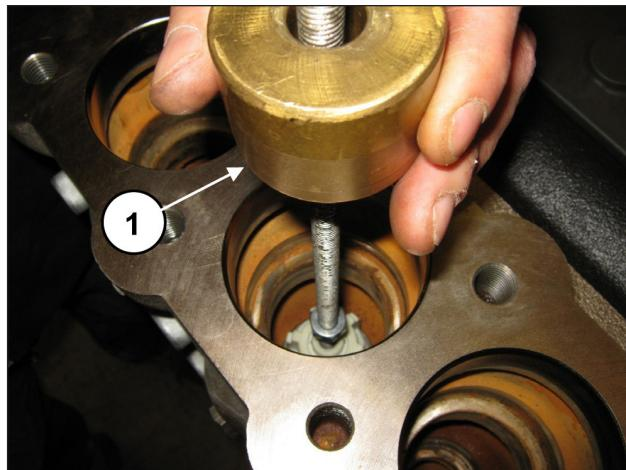

Fig. 103
Extract the suction valve unit with the use of an extractor hammer (code 27516400) to be applied on the M10 hole of the valve guide (pos. ①, Fig. 103) or, in addition, an M10-M16 adapter (code 25089700) to be attached to the M16 thread of the valve guide.